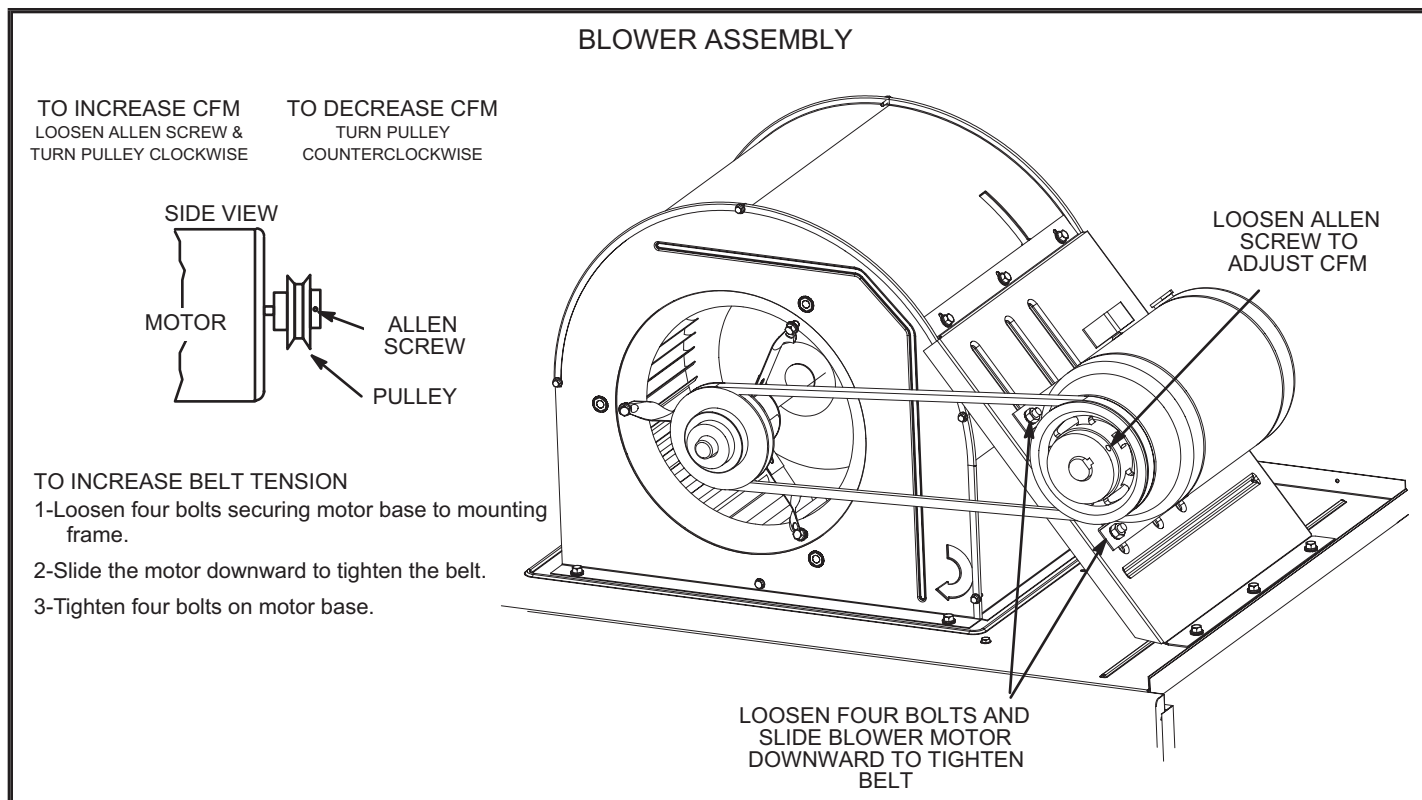

FIGURE 29
- 1 - Loosen four bolts securing motor base to mounting frame. See FIGURE 29.